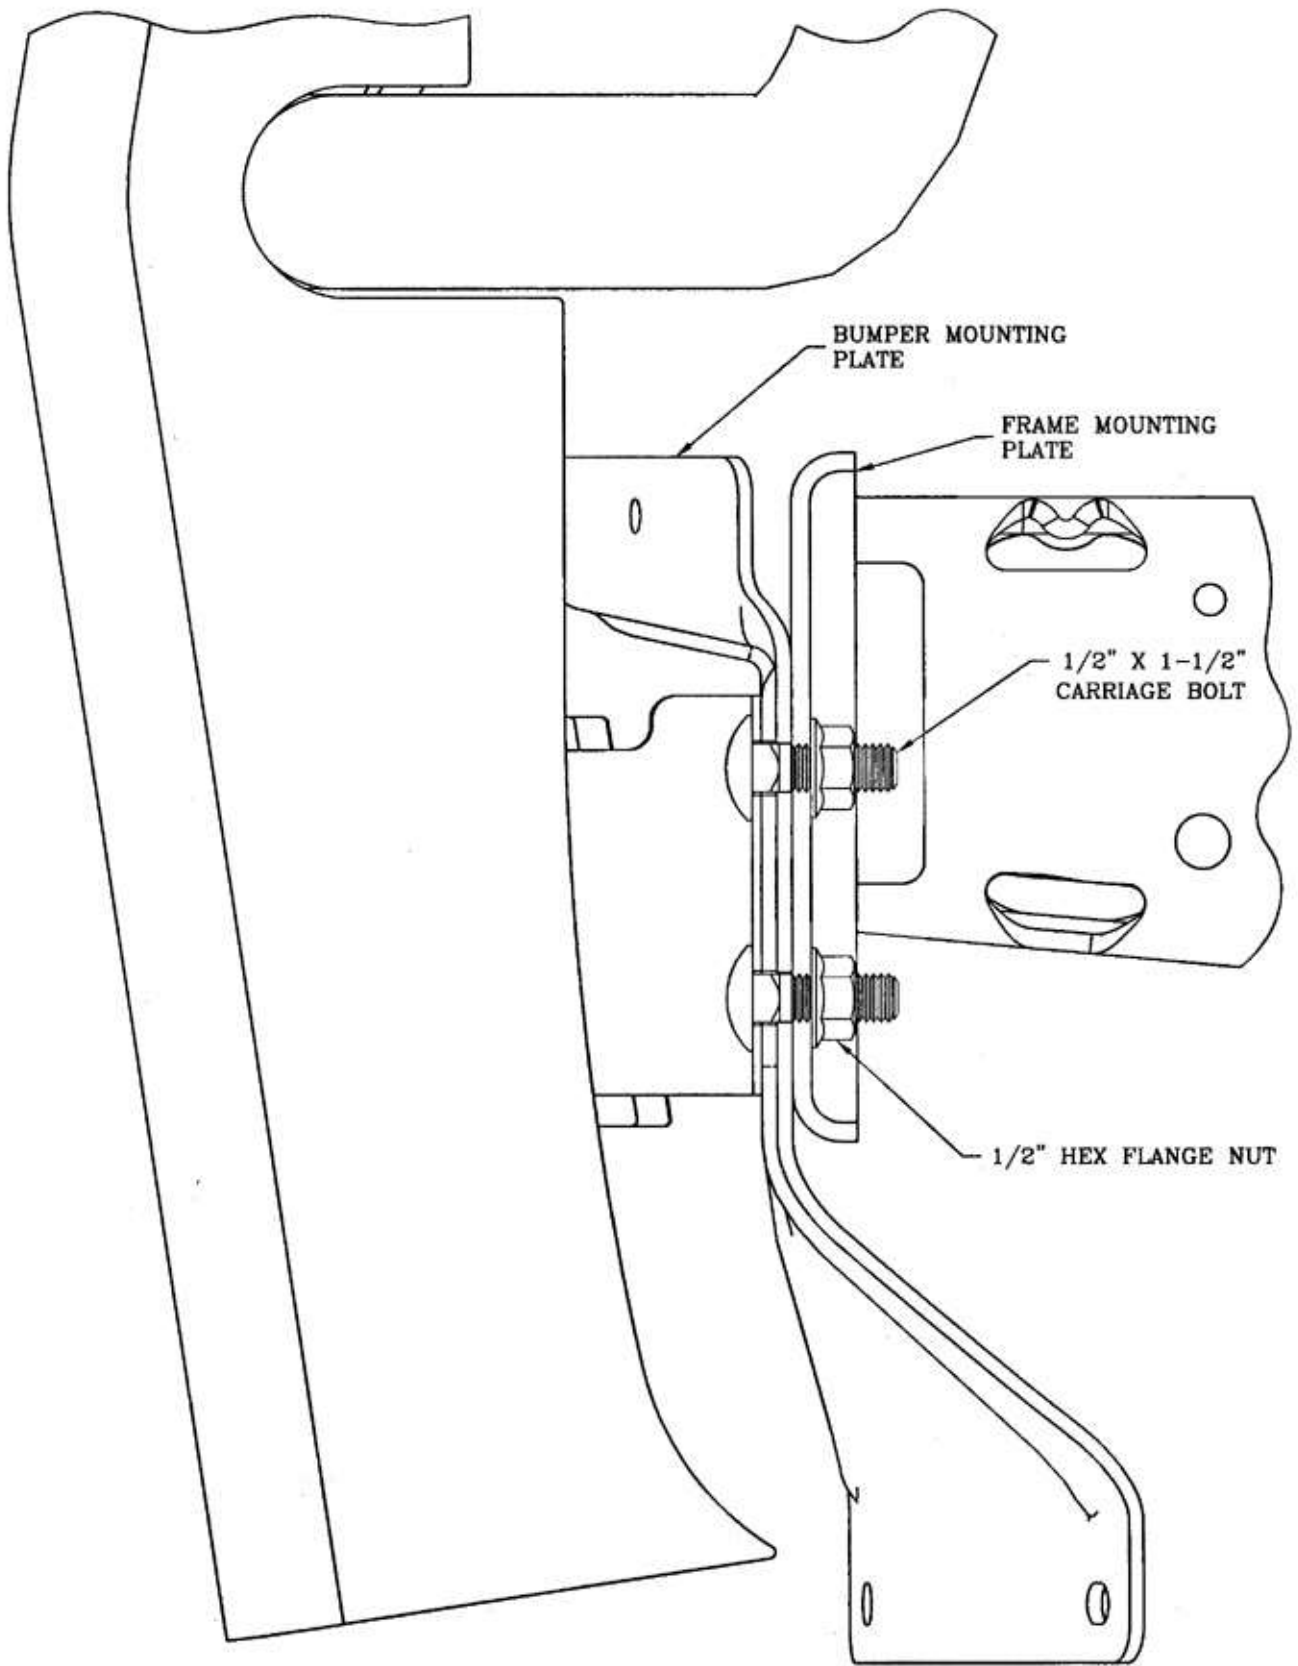

fig.1
3. INSTALL THE UPRIGHT (ITEM #2) OR (ITEM #3) FOR THAT SIDE, USING THE TWO ½-13 X 1-1/2 ROUND HEAD BOLTS (ITEM #6) AND THE TWO ½-13 FLANGE NUTS (ITEM #8) AS SHOWN IN FIG. 1 & 2. HAND TIGHTEN ONLY AT THIS TIME.